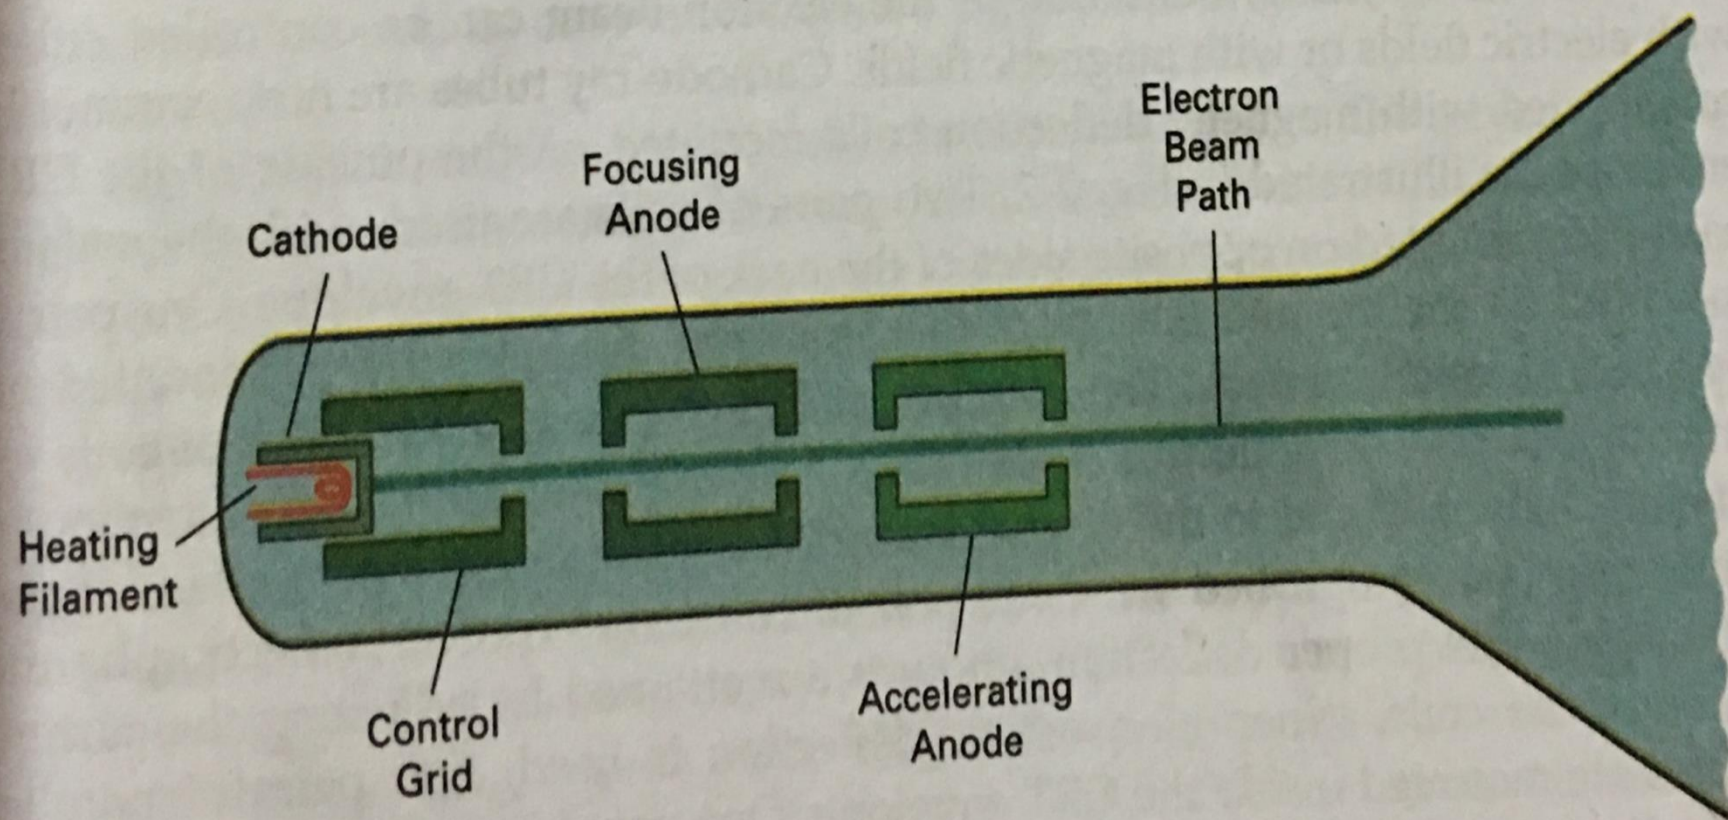

Figure 2-3
- Control grid (fig 2.3)
- The accelerating voltage can be generated with a positively charged metal coating on the inside of the CRT envelope near the phosphor screen, or an accelerating anode can be used, as in Fig. 2-3.
- With electrostatic focusing, the electron beam passes through a positively charged metal cylinder that forms an electrostatic lens, as shown in Fig. 2-3.